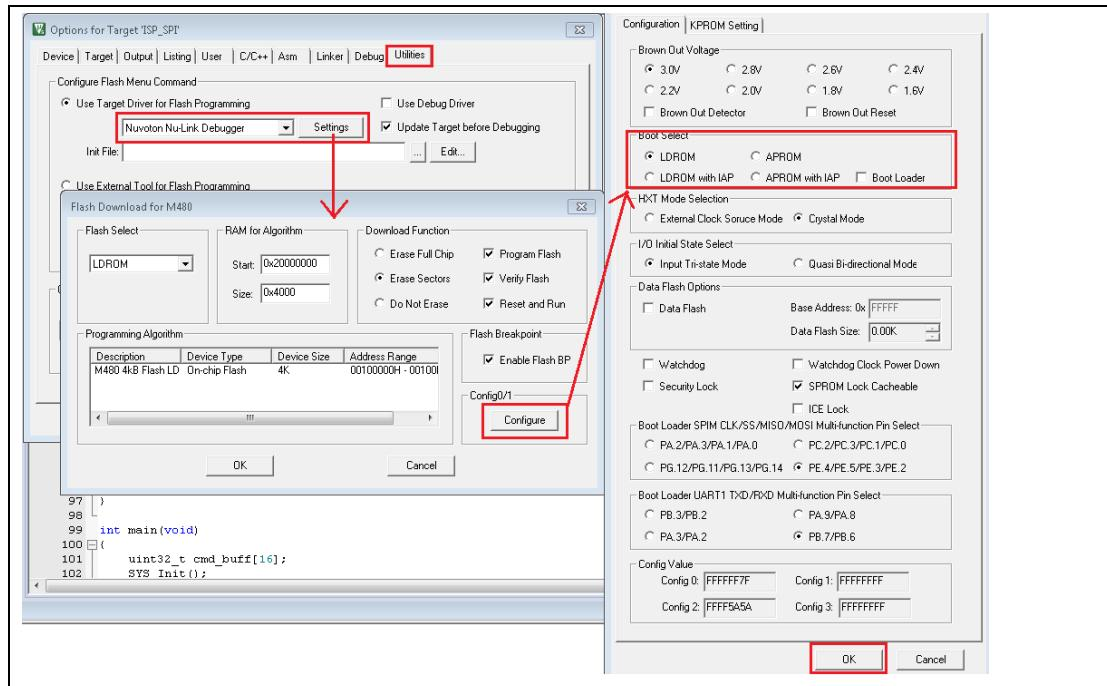

Figure 5.2-50 Boot from LDROM Setting in Keil ISP Firmware Project
- (6) Invoke Project → Options for Target → Utilities, select “**Nuvoton Nu-Link Debugger**” when the **Use Target Driver for Flash Programming** option is enabled, and select the **Update Target before Debugging** option, as shown in Figure 5.2-50
- (7) Click the **Settings** button to open the Flash Download form, as shown in Figure 5.2-50
- (8) Click the **Configure** button to open the user configuration form and set **Boot Select** option to LDROM and click **OK** button as shown in Figure 5.2-50
(9) Download code to LDROM of target chip.